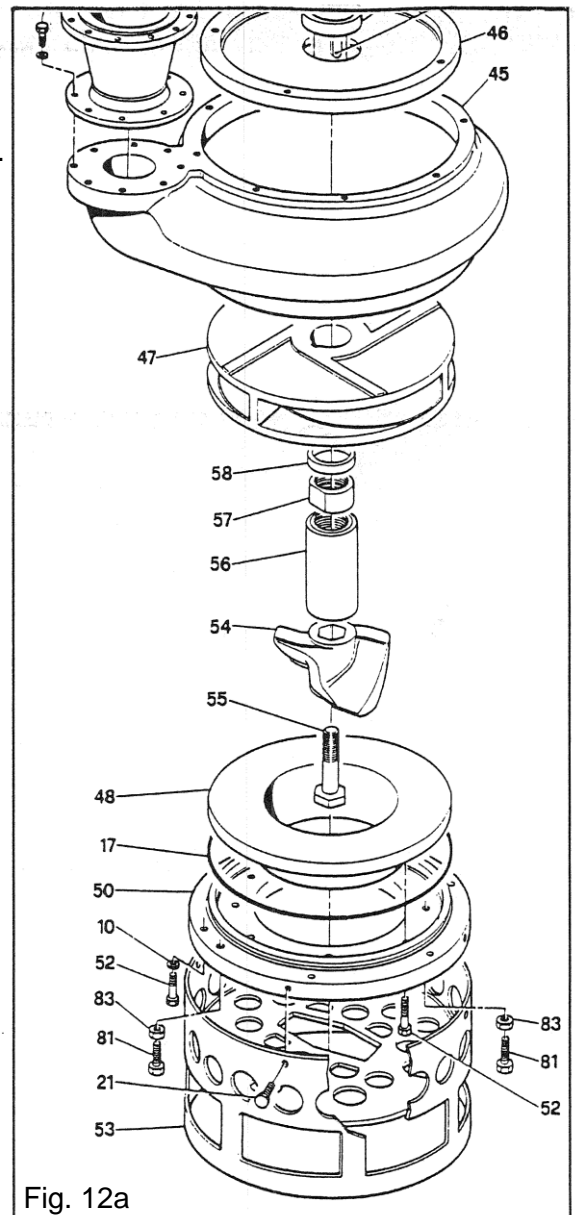

Fig. 12a
- Remove the connection **56** (Fig. 12a), then the nut **57** and the spacer **58**.